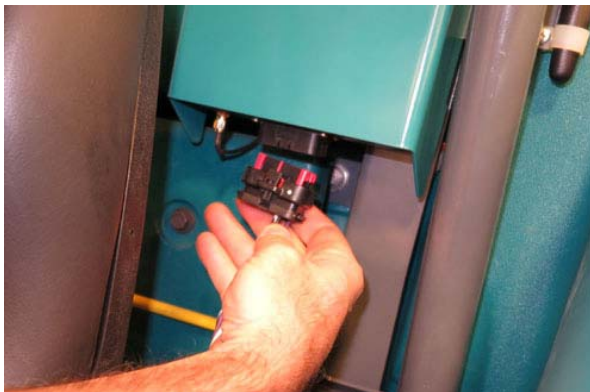

FIG. 15
19. Route the telemetry harness (14) around the left side of the batteries, up through the p-clamp behind the operator seat prop rod bracket, and to the control box (1).
20. Connect the telemetry harness (14) to the control box (1). (Fig. 15)